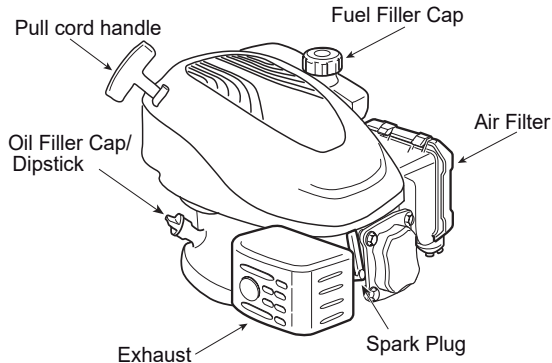

Figure 5
- Put Mountfield 4-stroke, or an SAE 30 oil, in the oil filler (Figure 5). Do not overfill, the oil tank capacity is 0,5 litres. Mountfield oil, part number MX855, is available from any Mountfield stockist, B&Q or Screwfix store.